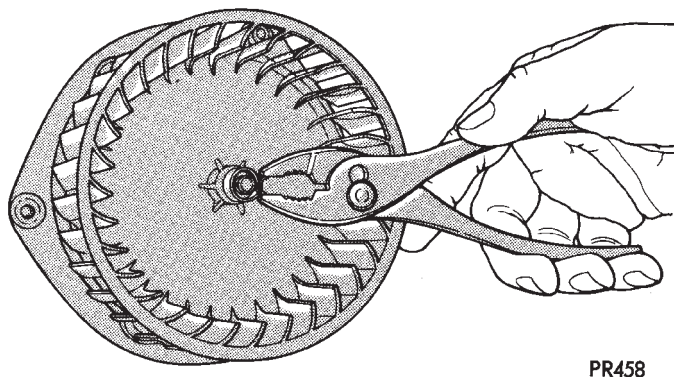

Fig. 18 Blower Wheel Retaining Ring Removal and Installation
(1) Remove the spring type retaining ring from the center of the blower wheel (Fig. 18). Note the location of the blower wheel on the blower motor shaft.